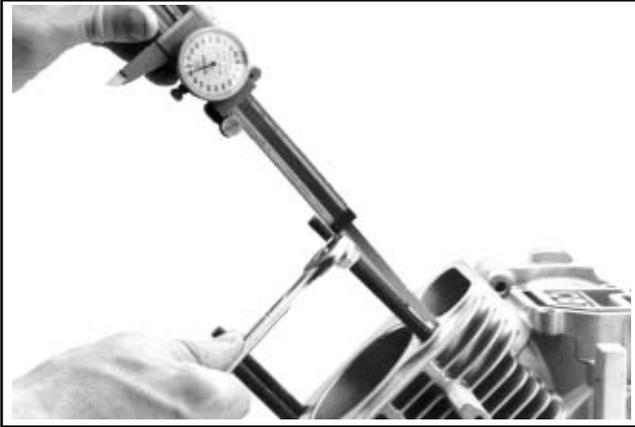

Figure 11-43. Installing New Mounting Studs to Specified Height.
- b. Thread the opposite end of the stud, with the preapplied locking compound, into the crankcase, until the specified height from the crankcase surface is achieved. See Figure 11-43. When threading in the studs, use a steady tightening motion without interruption until the proper height is obtained. Otherwise, the frictional heat from the engaging threads may cause the locking compound to set up prematurely.